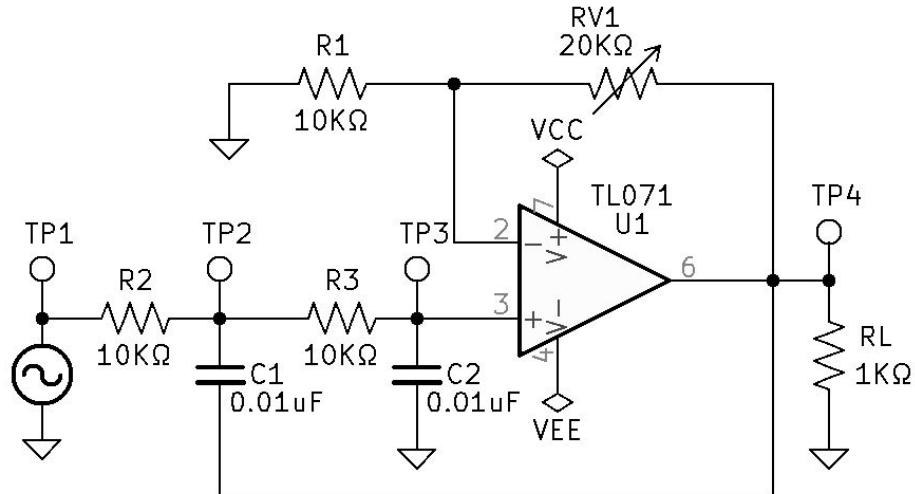

Figure 8.9: Bessel, Butterworth, Chebyshev Frequency Response Test Circuit.
| Figure 8.9 | TP1 | TP2 | TP3 | $\frac{TP1}{TP3}$ | RV1 | TP4 | ΔV |
1. See Figure 8.9 *Bessel, Butterworth, Chebyshev Frequency Response Test Circuit*.